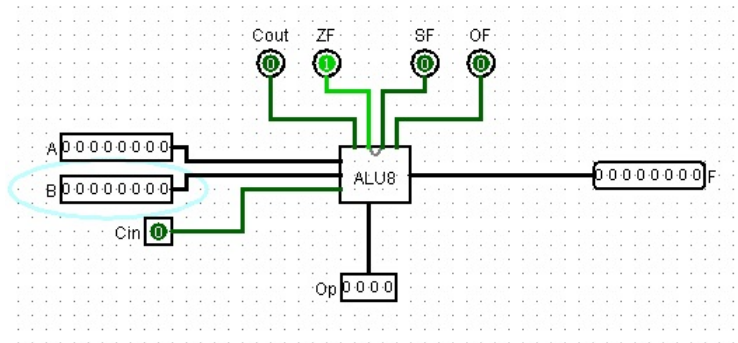

Figure 1: ALU External Specification
6. Using the **Logisim** digital logic design and simulator package, design and implement the above-described Y86 ALU. You must package the ALU so that it conforms to the interface given in Figure 1. In particular, the 8-bit A and B inputs must come in from the left hand side, the 8-bit output, F, must come out the right hand side, the condition codes must be in the correct order across the top as single bit input pins, and the ALU function must come in as a single 4-bit input at the bottom. Furthermore, your file should be named `ALU.circ` and the name of the circuit itself should be `ALU` (not `main`). You may define any other subordinate circuits that you wish to keep your design clean and organized.